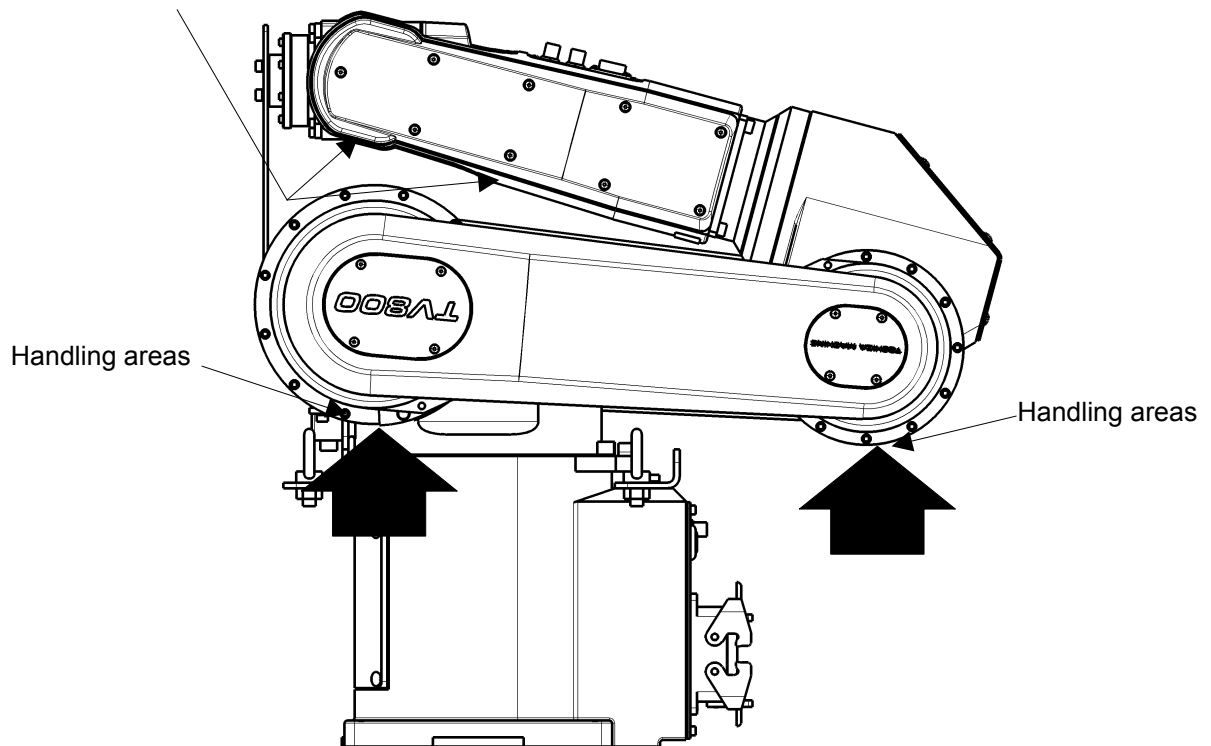

Fig. 2.5 Robot handling areas
- When lifting up the robot by workers, hold the locations (arrowed parts) by hands as shown in Fig. 2.5. If the arm 2 and arm 3 are held by hands, an unusually large force is exerted, resulting in a malfunction.